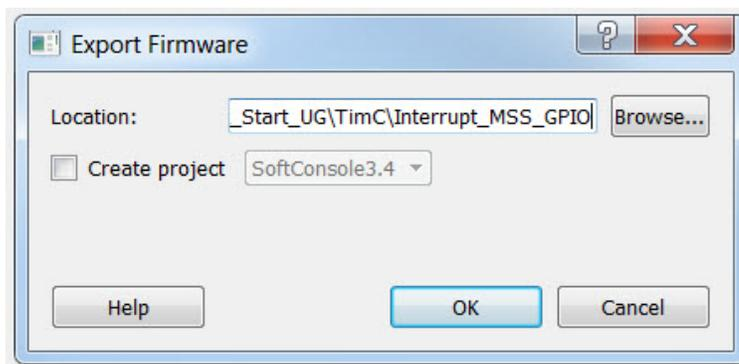

Figure 5-15 • Export Firmware Dialog Box
3. Check **Create Project** and choose **SoftConsole** from the drop-down menu (Figure 5-15).